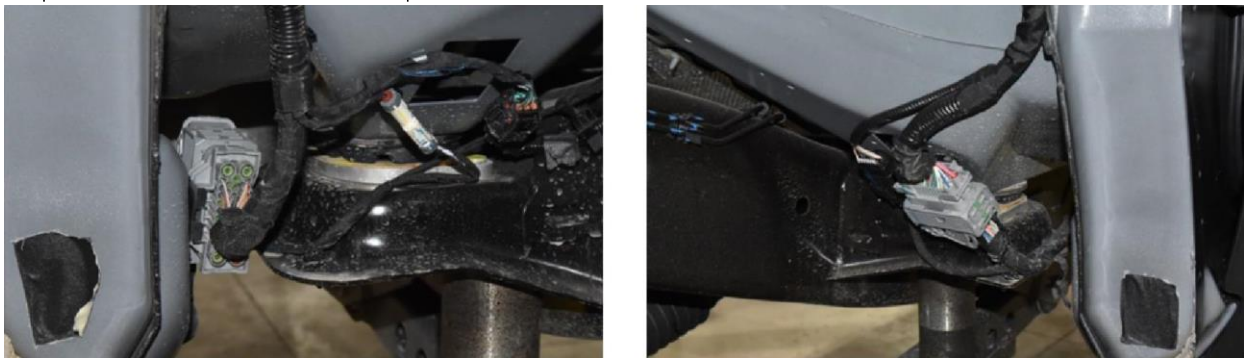

Figure 2 Passenger side (left) Driver side (right)
A) Carefully remove wire harness connectors from factory positions (fig. 2) and unclip the harness from the pinch weld to allow slack.